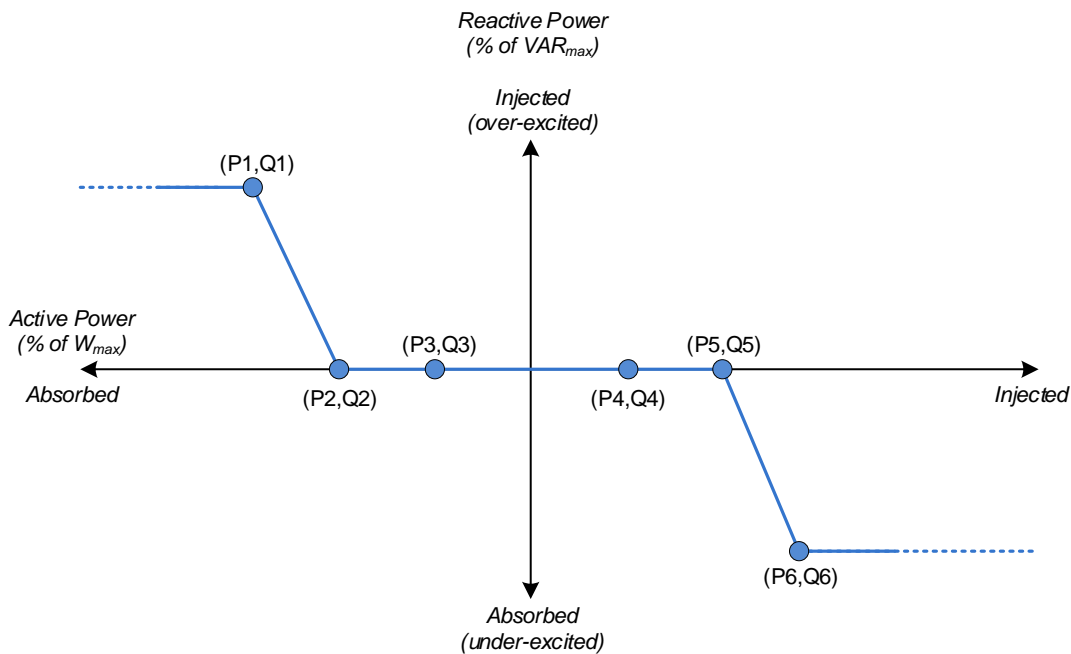

Figure 28 - Watt/VAR Configuration
Figure 28 illustrates a basic Watt-VAR curve. At the endpoints, to the left of the first active power point and to the right of the last active power point, the reactive power level remains constant (i.e., flat lines). The active power points (P) are defined as a percentage of the maximum active power (W_{max} , **REG 40266**). By default, the reactive power points (Q) are defined as a percentage of the maximum reactive power (VAR_{max} , **REG 40272**). However, the scaling can be changed to be a percentage of the maximum active power (W_{max} , **REG 40266**) or the maximum apparent power (VA_{max} , **REG 40271**) using the *VAR Dependent Reference* register in the Watt-VAR curve settings. When the Watt-VAR curve is enabled (**REG 41630**), the PCS’s active power output is used to determine the reactive power output specified by this curve. When the result is a non-zero reactive power command, the **Watt-VAR Active** warning bit will be asserted in **REG 41756 – PCS Warnings**.